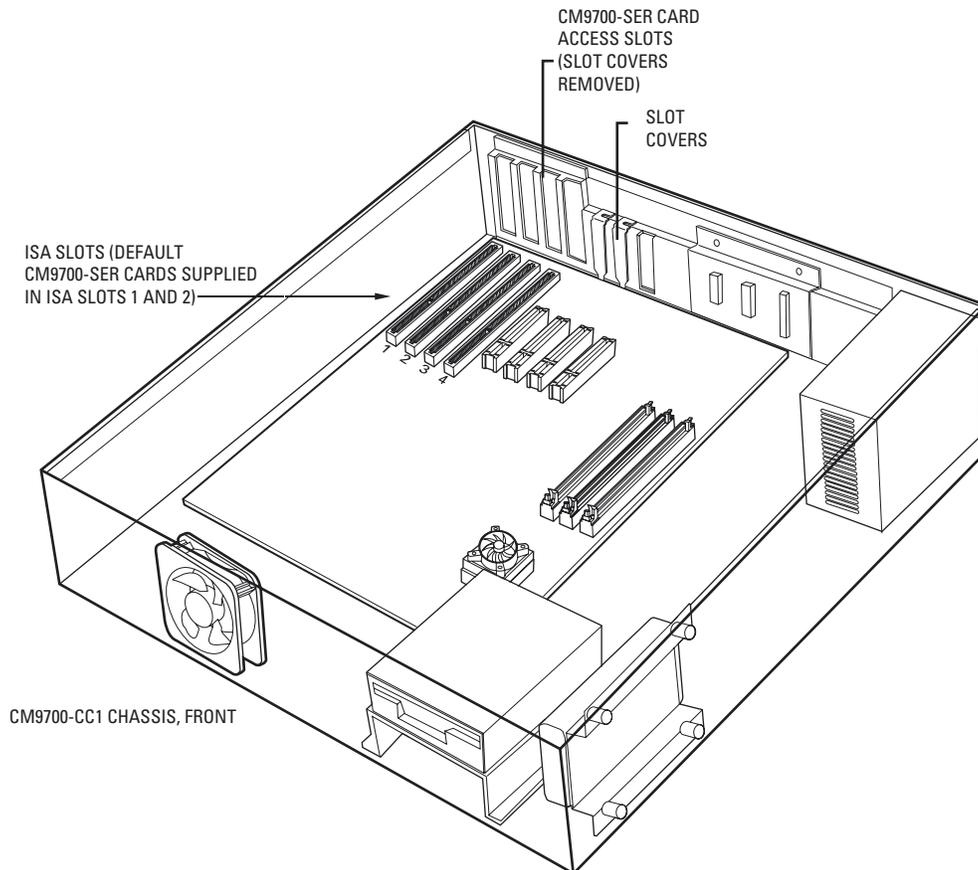

Figure 38. How to Install a CM9700-SER Card
4. Insert the new SER card into an available ISA slot. The default CM9700-CC1 configuration provides SER cards in ISA slots 1 and 2, so you will most likely insert the new card into slot 3 or 4. Refer to Figure 38.